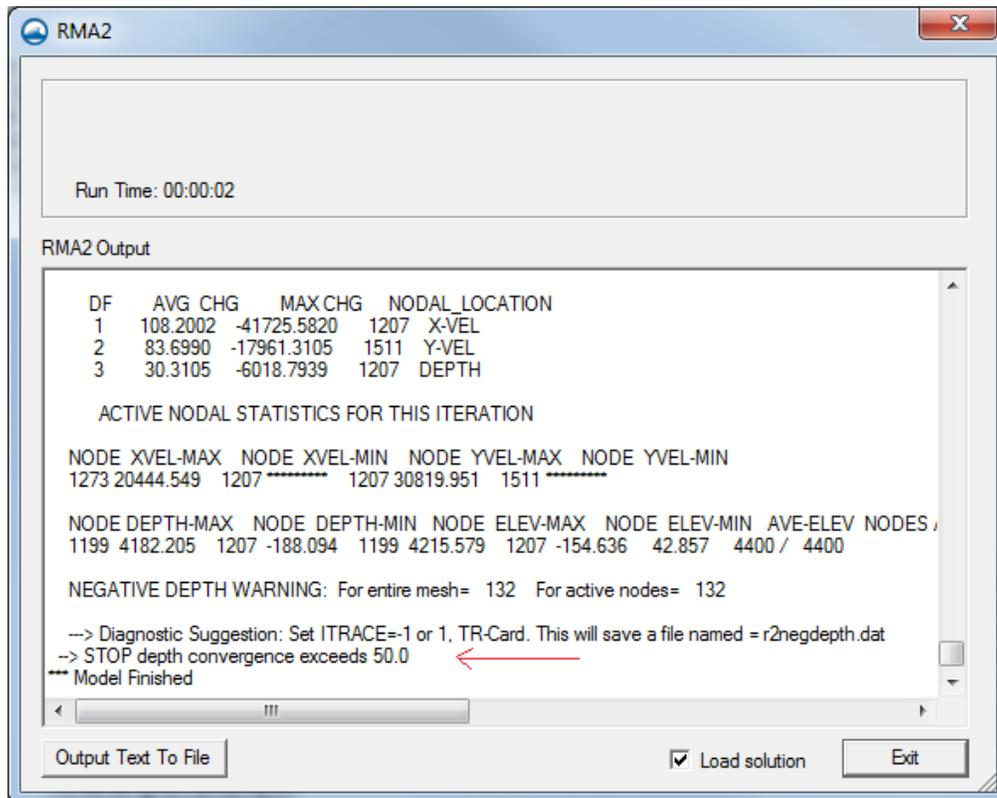

Figure 5. Output from running *trib.sim*.
*RMA2* will run through four iterations and diverge. At the bottom of the *RMA2 output* window is the text “STOP depth convergence exceeds 50.0”, as highlighted in Figure 5. This is how *RMA2* declares that it has not successfully converged.